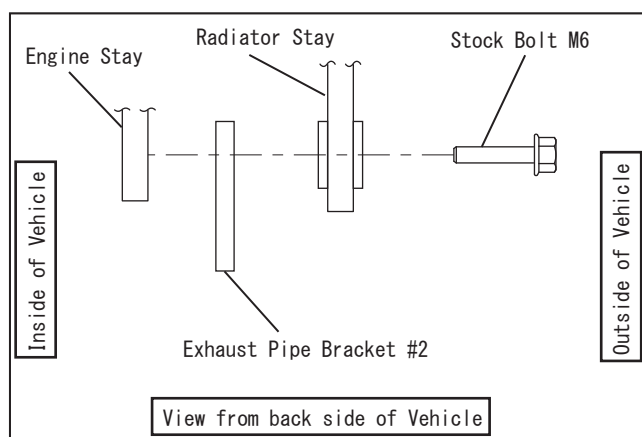

FIG. 3
- 4) Use the 2 stock bolts to mounting Exhaust Pipe Bracket #2. Tighten bolts by hand at this stage (see Fig. 3,4)
**CAUTION** Please be careful mounting Exhaust Pipe Bracket#2. The bracket position is between Radiator and Engine Stay (See Fig. 3,4)